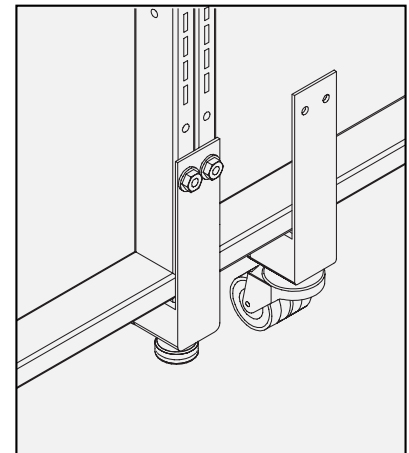

Fig. 6B
- B. Align the holes on the Center Support Leg with the holes on the Frame (Fig. 6B).
(Fig. 6B) Repeat steps A-D for Center Support Leg with Caster